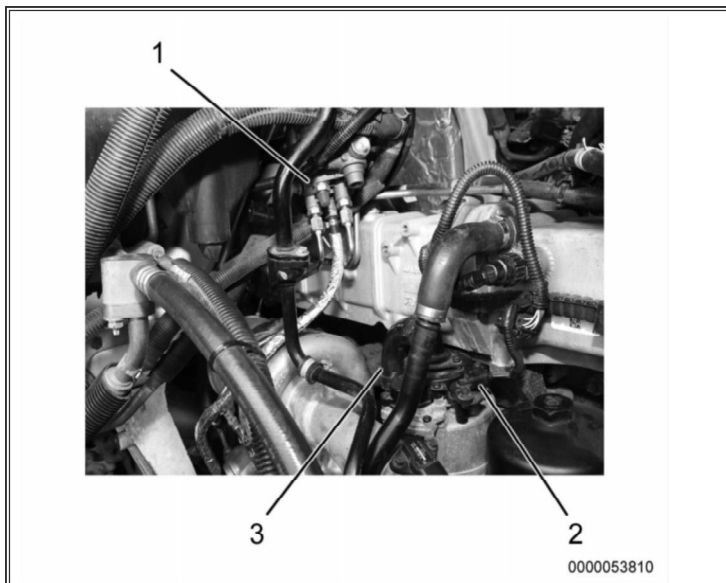

Figure 20: Air Control Valve
17. Remove three mounting bolts from ACV (**Figure 20**, Item 1) and position ACV aside.
18. Disconnect CCOS housing outlet hose (**Figure 20**, Item 3) from CCOS housing.
19. Disconnect CCOS housing sensor connector (**Figure 20**, Item 2).
22. While pulling out HP turbocharger inlet duct (Figure 20, Item 2) remove CCOS housing (Figure 20, Item 1) from oil jet plate.